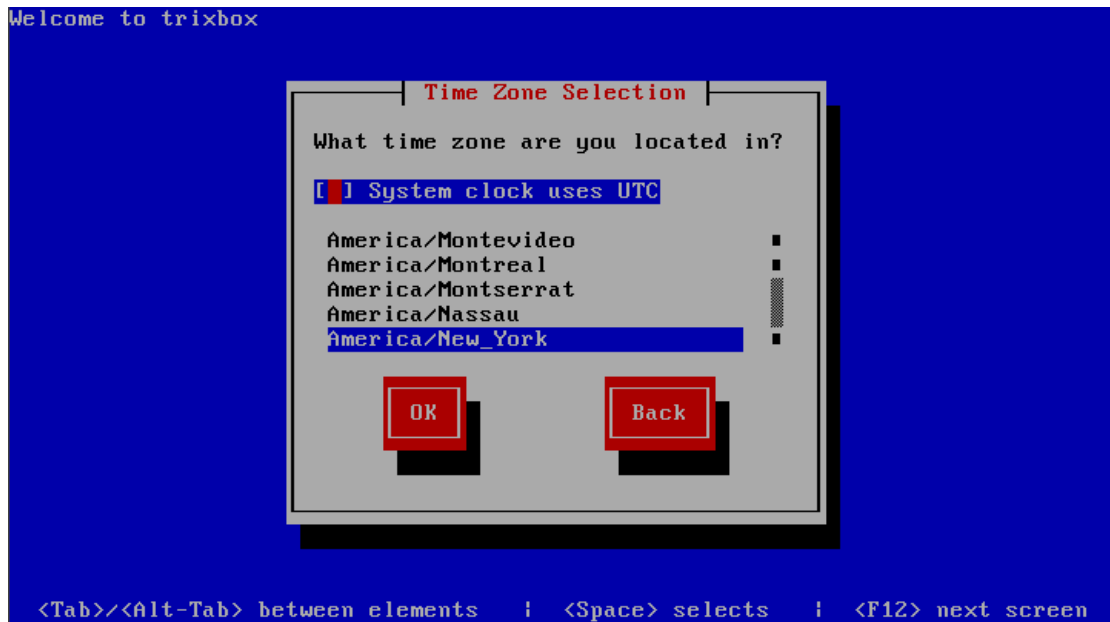

Figure 3
- Next, select a time zone according to the real situation. Here we select 'America/New\_York' as shown in Figure 3.